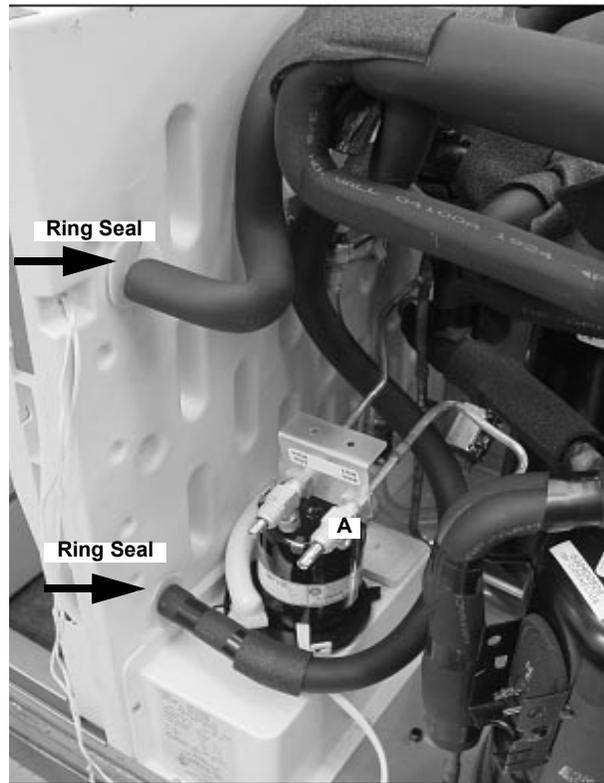

Figure 21.
19. Remove the bulkhead seals at the front of the evaporator assembly. Remove the insulation from the evaporator inlet and outlet lines (Figure 21). Remove enough insulation to safely disconnect these lines.
Attach a nitrogen feed (A) to the low side service valve (5-10 psi) (Figure 21).